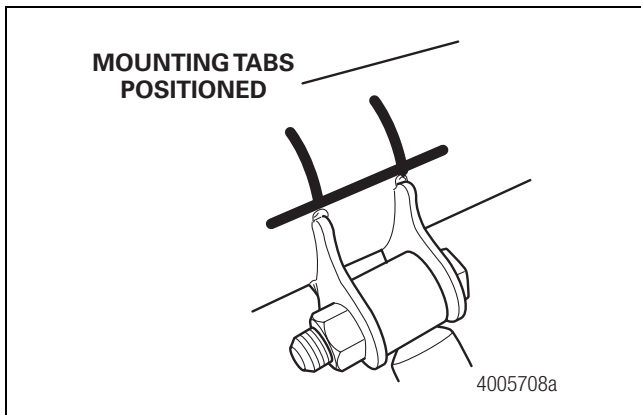

Figure 6
20. Install the mounting tabs onto a shock absorber or spacer to set the correct distance. Figure 6.